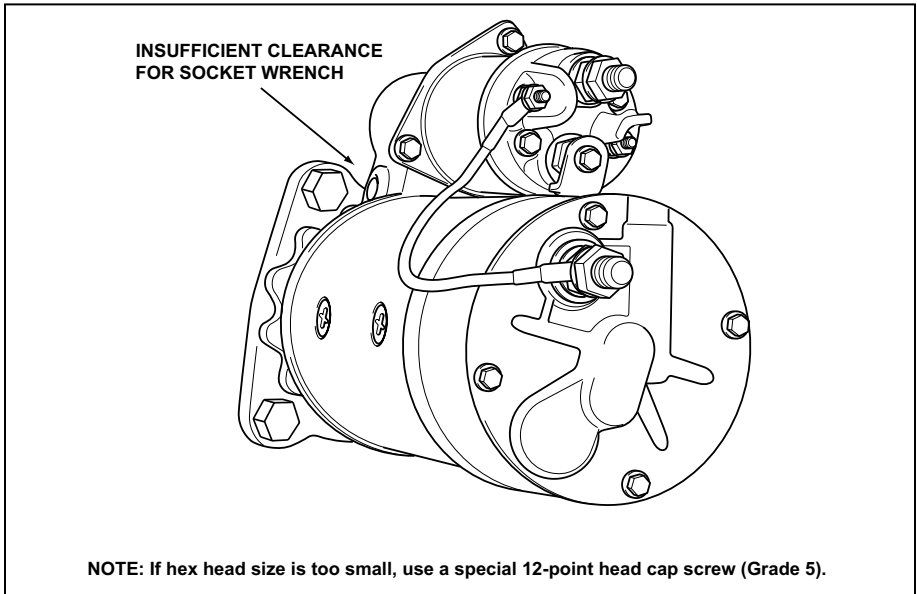

Fig. 1
2. If the lever housing interferes with wrench during the housing reassembly process, use a special 12-point head cap screw (Grade 5). (See Fig. 1)